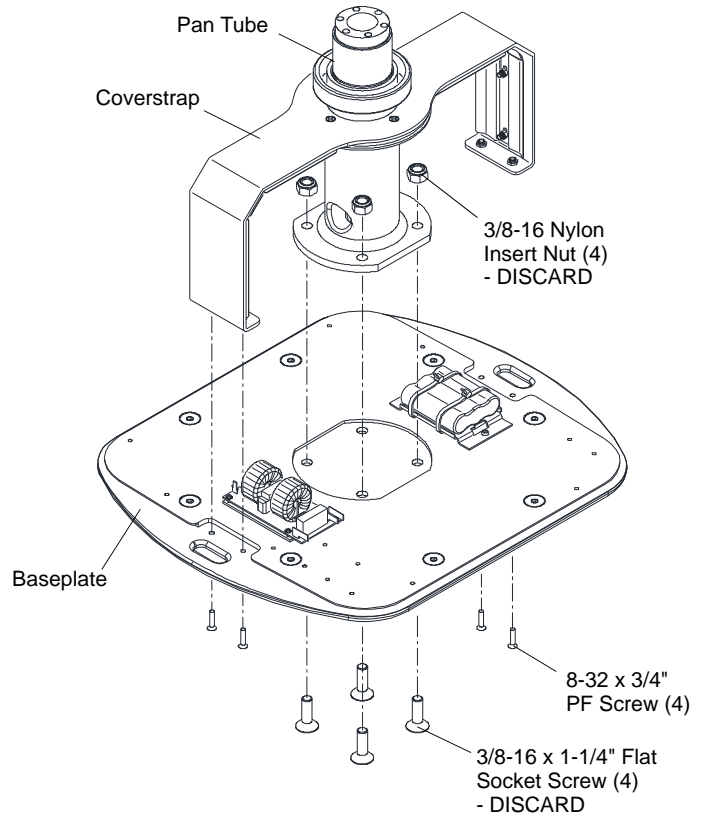

Figure 5: Removing Baseplate
- At bottom of Baseplate, remove four 8-32 x 3/4" PF screws which secure Coverstrap (**Figure 5**).
- Step 9. Reattach Baseplate to Pan Tube using **NEW** hardware included in kit. (Refer to **Figure 5**.) Torque 3/8-16 hardware to 30 ft-lbs.
- Step 10. Secure Coverstrap to Baseplate. (Refer to **Figure 5**.) Apply Loctite 242 to 8-32 x 3/4" screws.